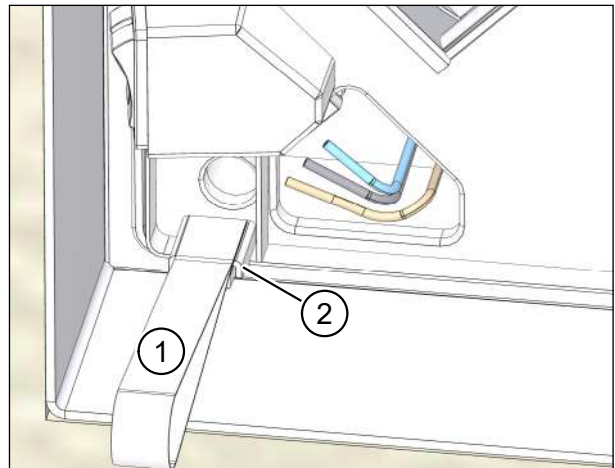

Fig. 42: Sticking on the unit cover pull-out strap
- ▶ Take the unit cover pull-out strap (item 1 in Fig. 42) from the U2 adapter kit (see section 6.2.3 on page 19).
- ▶ Stick the unit cover pull-out strap to the top of the left-hand unit cover retainer (item 2 in Fig. 42).
For U2 integrated into wall installation, make sure that the unit cover pull-out strap (item 1 in Fig. 42 on page 38) is hanging down beneath the unit cover.